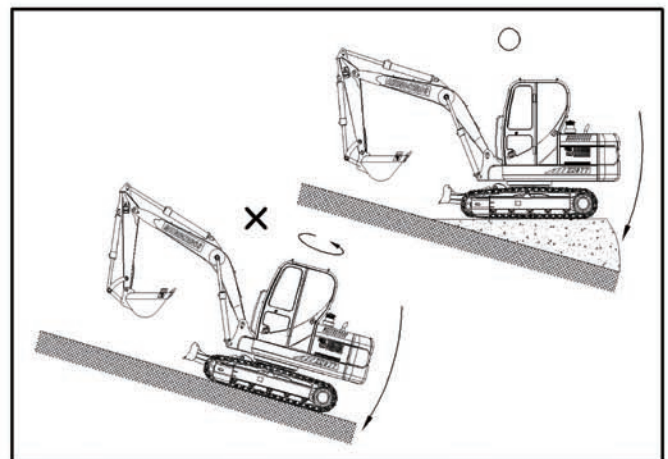

Fig 3-30
- Try to make sure the machine work on level ground(fig 3-30.)